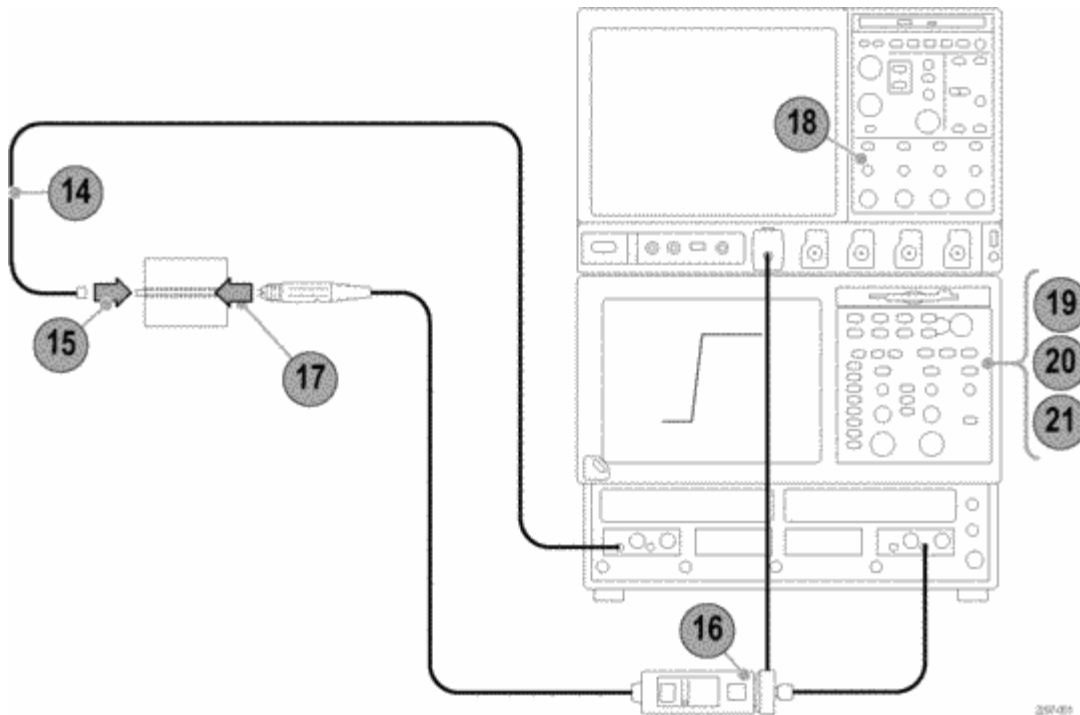

Figure 13: Probe rise time setup
14. Disconnect the SMA cable and BNC adapter from the Channel-1 side of the TekVPI Calibration fixture. (See Figure 13.)